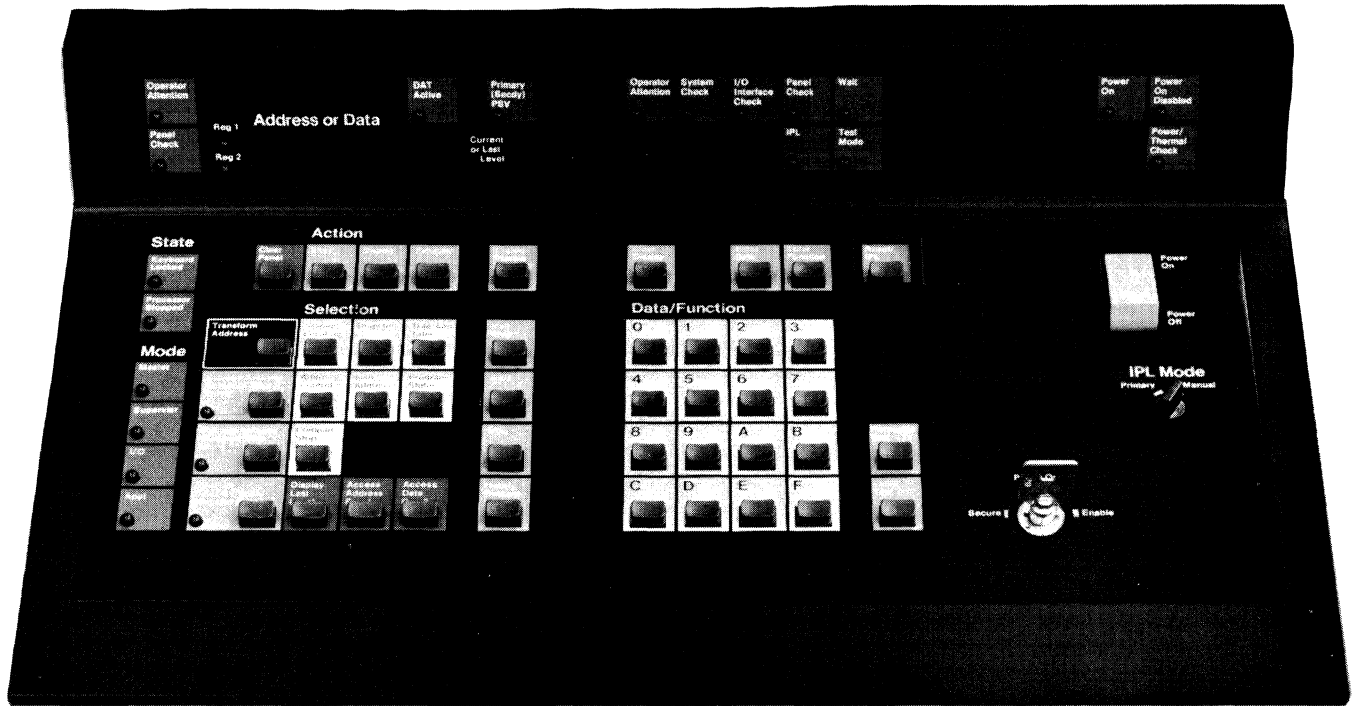

Figure 8-4. 8140 Expanded Function Operator Panel with Features Model A and B Only
- 8140 expanded function operator panel (Figure 8-4) (not available on 8140C)